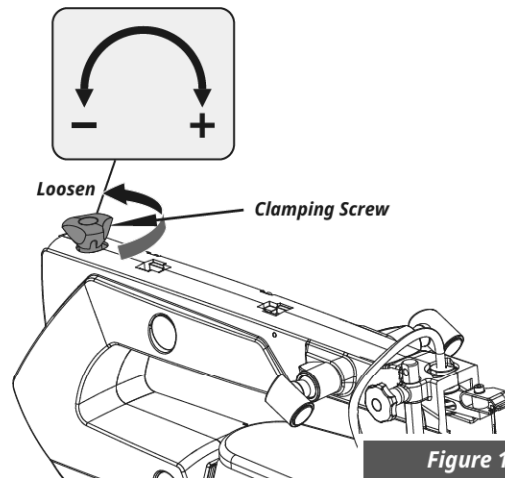

Figure 11
3. Pinned blade removal. Extract the pinned blade by unscrewing the Clamping screw. Remove the pinned blade from the upper and lower support by slightly pressing the upper arm down. (See Figure 11&12)